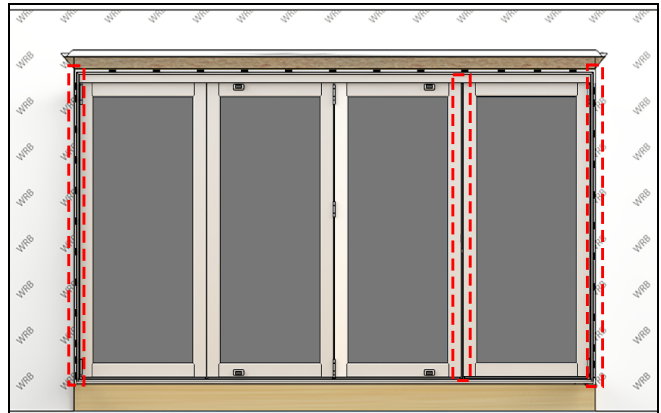
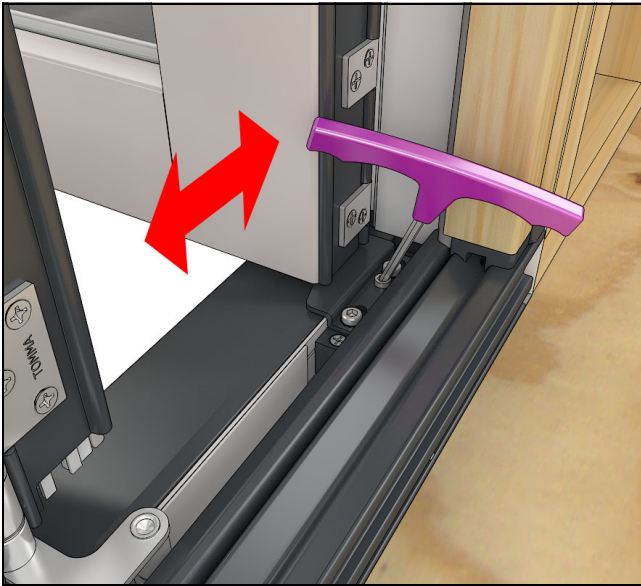

Figure 50
Figure 52
3. Adjust the top and bottom pivots horizontally to ensure consistent weather strip contact at the jambs and astragal (if applicable). See Figure 50, Figure 51, and Figure 52.
5. The bottom pivot can be adjusted similarly when the panels are open. Loosen the outer set screws, turn the adjustment cam, and tighten the outer set screws. See Figure 52.